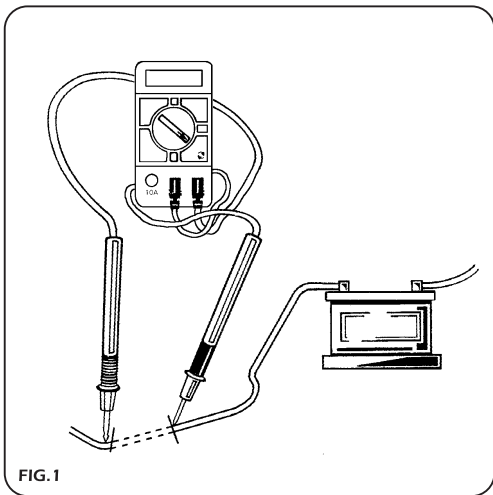

FIG. 1
- **DC CURRENT MEASUREMENT (Fig. 1):**